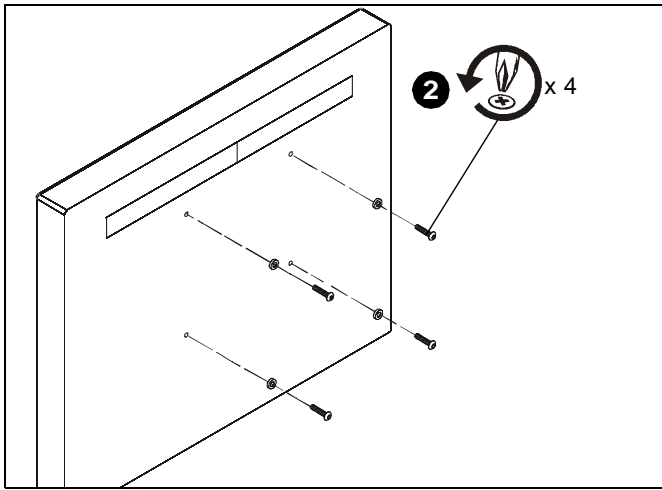

Figure 4
2. (If applicable) Remove four sets of bolts and washers that were shipped attached to the back of the display. (See Figure 4)